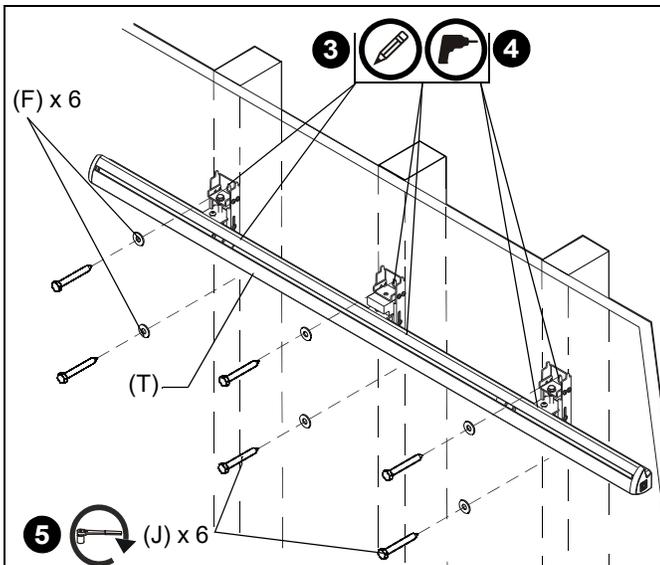

Figure 4
3. Using the wall assembly (T), mark the wall on each stud above existing chalkboard/whiteboard through mounting holes in each bracket. (See Figure 4)
4. Drill one 1/8" pilot hole at each mark. (See Figure 4)
5. Use six 1/4" x 2-1/2" lag bolts (J) and six 1/4" flat washers (F) to attach wall assembly (T) to wall. (See Figure 4)